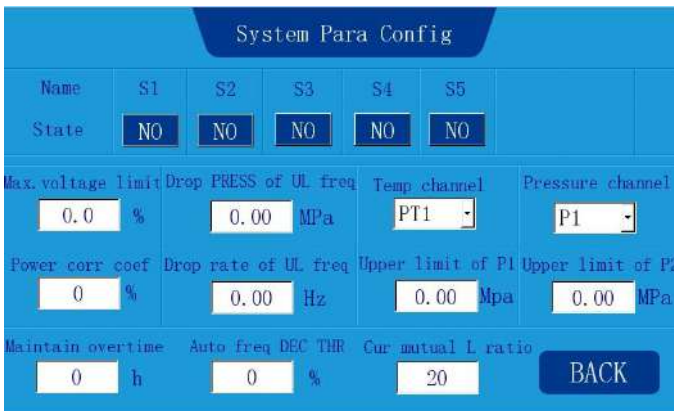

Figure 4-9 System parameter configuration interface
Step 3: Click **Next page** to enter **System Para Config** or click **BACK** to return to system configuration. On the system configuration interface, click **System Para Config**. S1 functions as emergency-stop switch, select NO/NC based on the polarity of the emergency-stop switch, as shown in Figure 4-9.